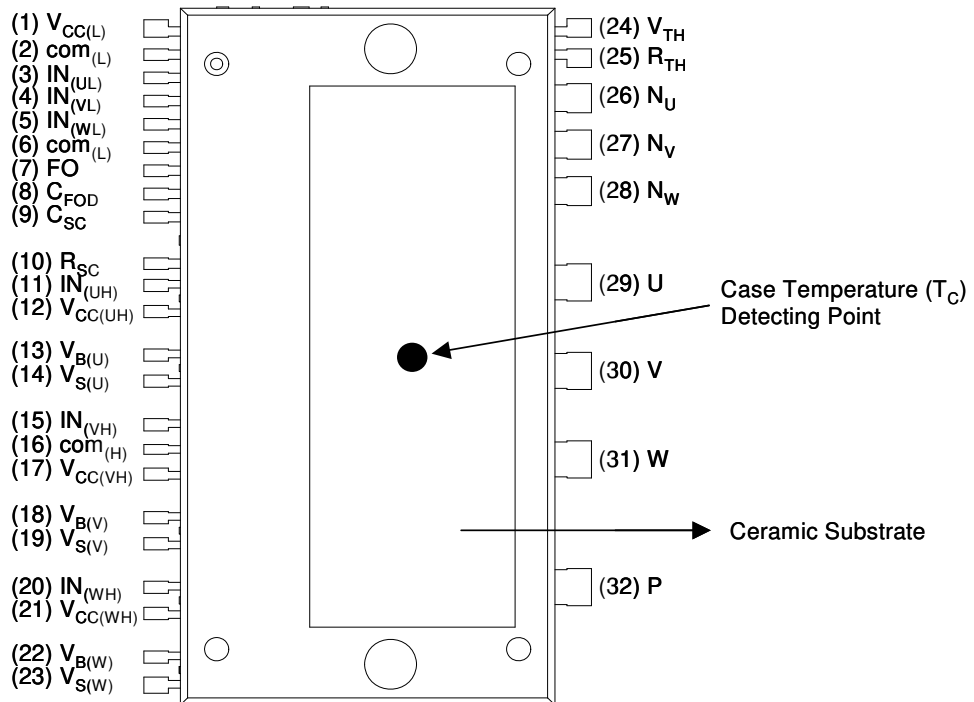

Figure 2. Top View
| Module Case Operation Temperature | T _C | See Figure 2 | -20 ~ 100 | °C |
2. For the measurement point of case temperature(T_C), please refer to Figure 2.